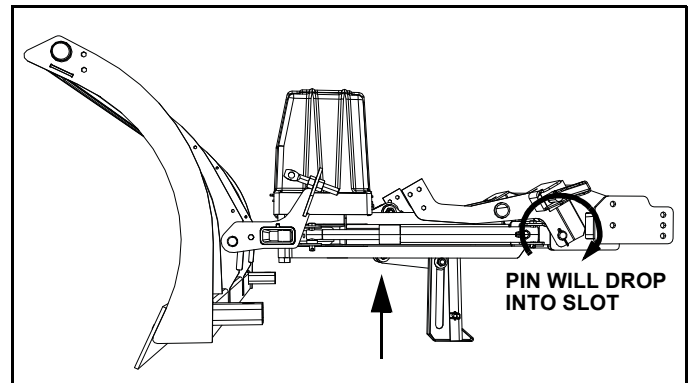

Figure 1-10
3. Rotate lift bar into position by turning on down pressure and pressing the lower button. (See Figure 1-10).